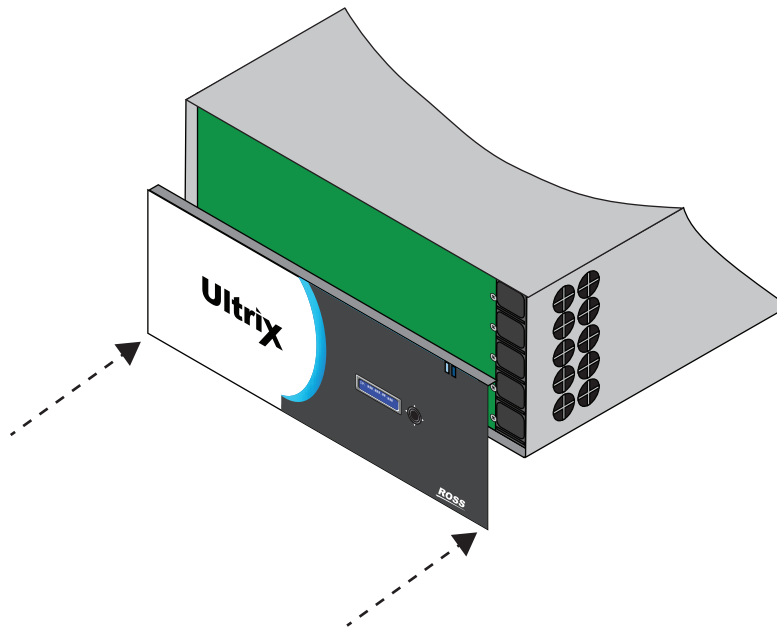

Figure 3 Front Panel — Aligning the Door to the Chassis
1. Align the door to the front of the router, ensuring that the door is oriented upright, the corner with the Ultrix logo is in your left hand, and the corner with the Ross logo is in your right hand. Refer to **Figure 3**.